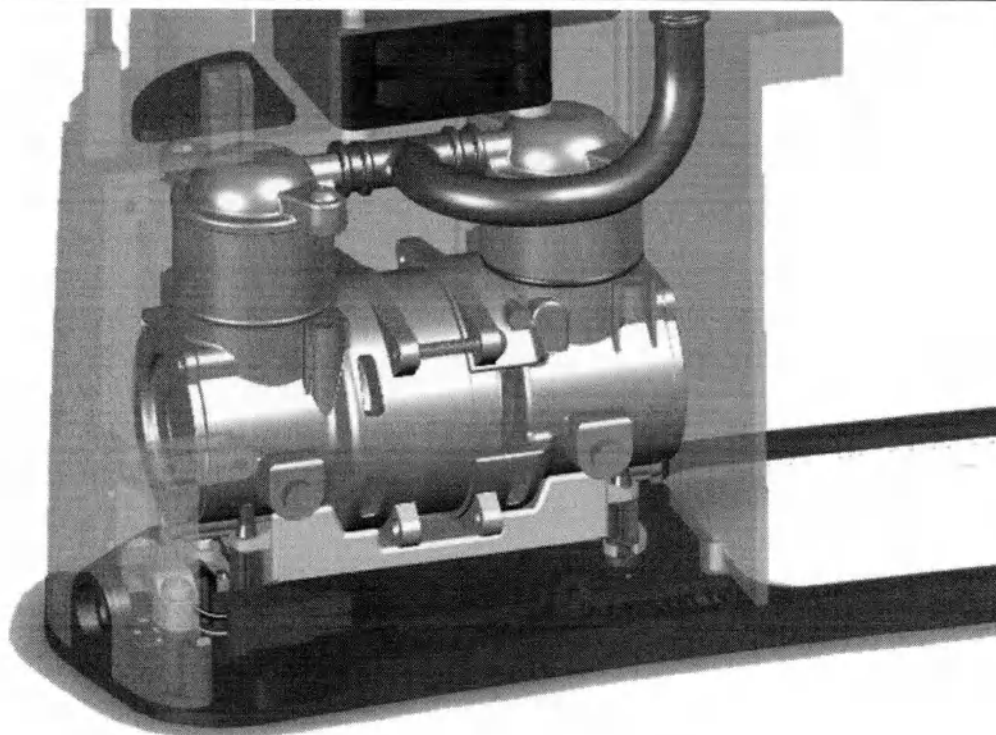

Figure 30
1. Install the base with the compressor kit as shown in Figure 30.
Make sure the compressor cylinder never touches from each side the main structure as shown in figure 30 and 31.